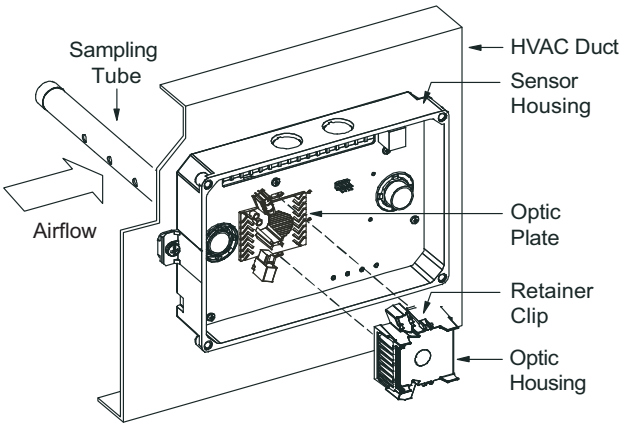

Fig. 61 — Sensor Cleaning Diagram
1. Disconnect power from the duct detector then remove the sensor’s cover. (See Fig. 61.)